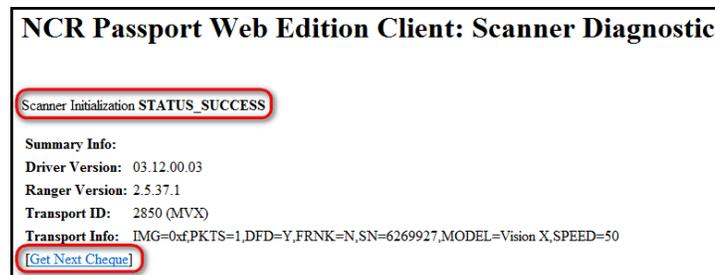

Figure 7: Status Success
4. Click **Get Next Cheque**. See Figure 7